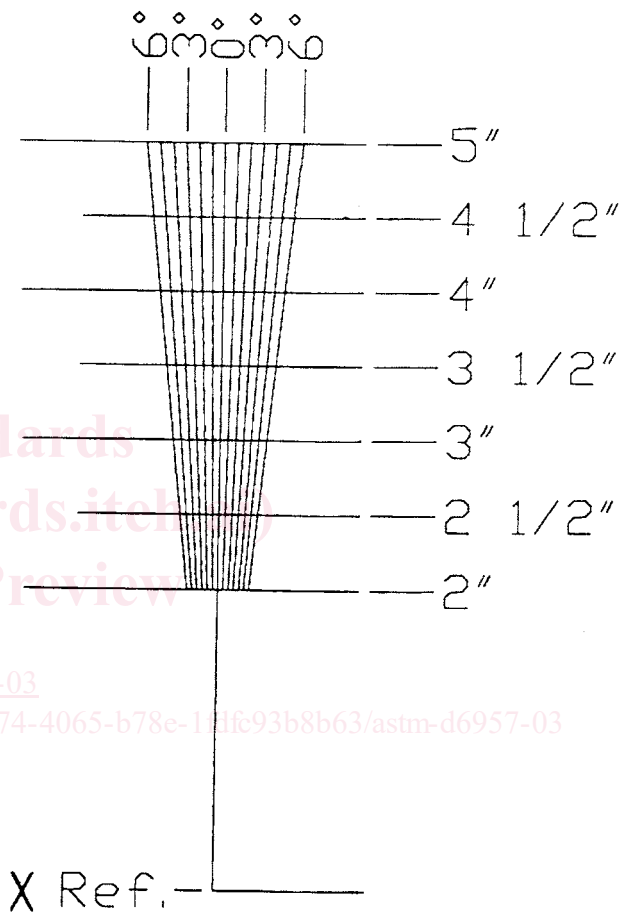

FIG. 1 Filament Curl Deviation Chart
4.1 Filament curl deviation chart. See Fig. 1.
5.1.3 Place a filament on the filament curl deviation chart with butt-end at the x-reference point (see Fig. 1).